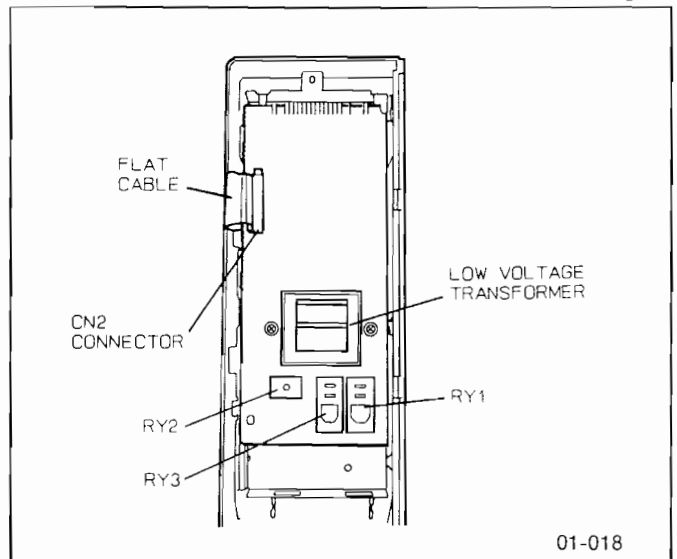

Fig. 19
- (D) Release CN2 connector's lock of DPC by pushing lever to inside and pull it upward, and remove flat cable of membrane key board. (Fig. 19)
- (E) Remove 2 screws holding DPC. (Fig. 19)